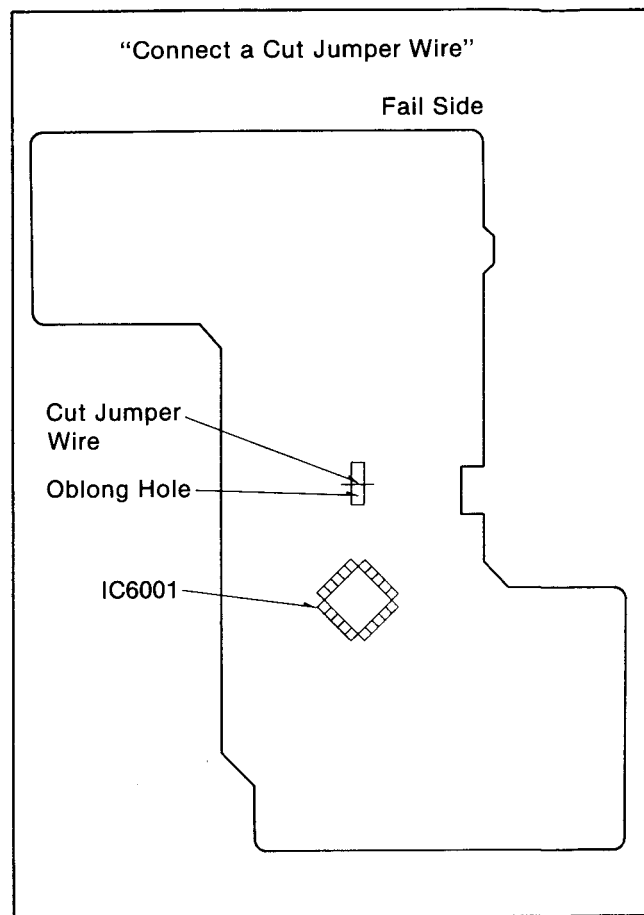
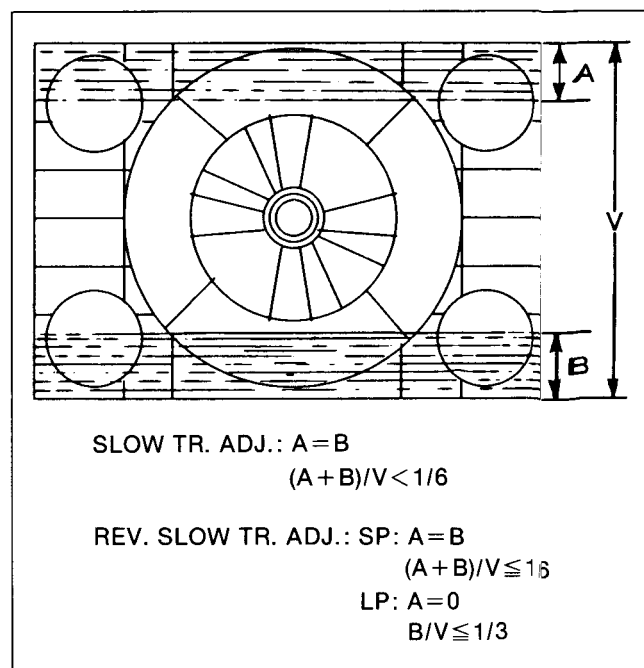

Fig.E4
Fig. E5
1. Connect a cut jumper wire as shown in Fig.E4.
2. Record the colour bar signal in SP(LP) mode for few time and playback the just recorded portion.
4. Adjust VR2011(SP) (VR2006(LP)) so that the noise bar on the monitor screen becomes minimum. (Detail specifications are shown in Fig. E5)
4. Adjust VR2019(SP) (VR2018(LP)) so that the noise bar on the monitor screen becomes minimum. (Detail specifications are shown in Fig. E5)